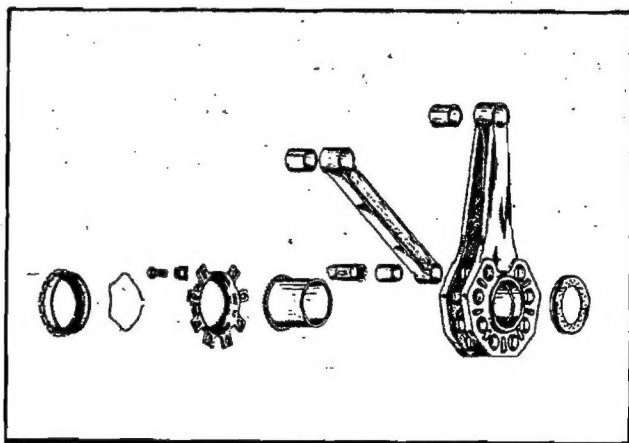

Figure 14—Master and Articulated Rods and
8. The articulated rod assembly is attached to the crankshaft by the master rod. See figure 14. Eight articulated rods are connected to the master rod by means of knuckle pins. The opposite ends of master and articulated rods are attached to pistons which ride inside the cylinders.